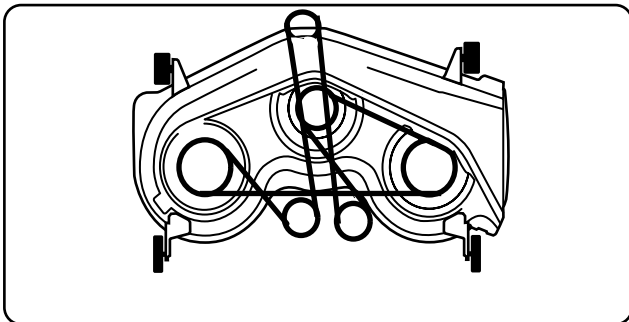

Figure 8.20
- For 50" and 54" decks, See Figure 8.20.